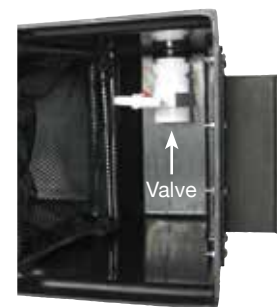

Figure 7
**Optional:** If control of flow from bottom drain is desired a gate valve can be installed on the inside of the skimmer (figure 7). The EasyPro BDK3 bottom drain kit includes the fittings needed to hook the bottom drain to the skimmer as well as a bottom drain.